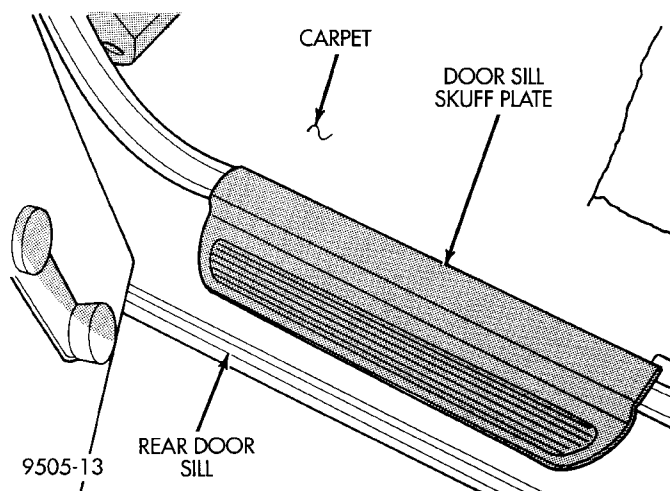

Fig. 139 Rear Door Sill Scuff Plates
- (8) Remove rear seat cushion from vehicle.
- (9) Remove scuff plates (Fig. 139) from right and left rear door sills. Scuff plates are attached to door sills using clips on bottom of scuff plates. Remove by carefully prying scuff plate retaining clips out of door sills.